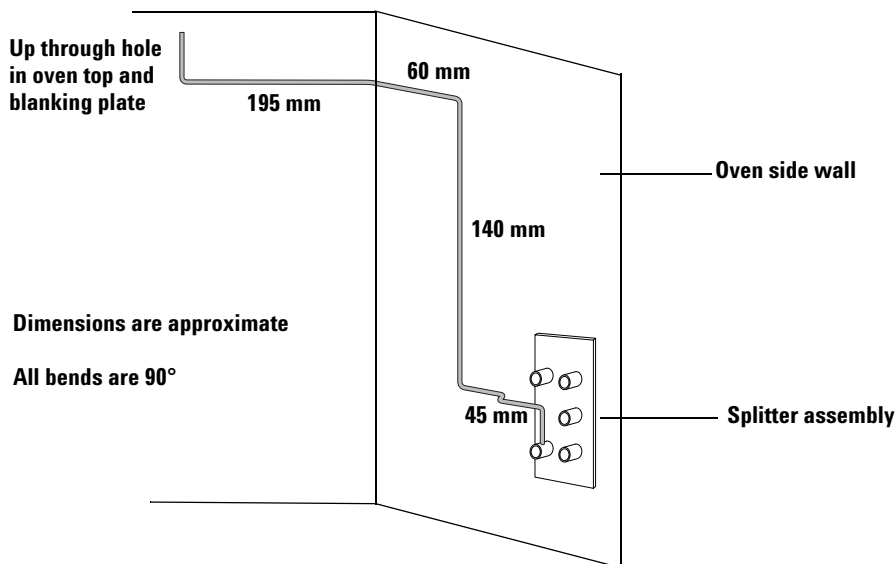

Figure 8 Prebending the splitter tubing
- 4 Prebend the tubing according to Figure 8. This will make splitter installation much easier.